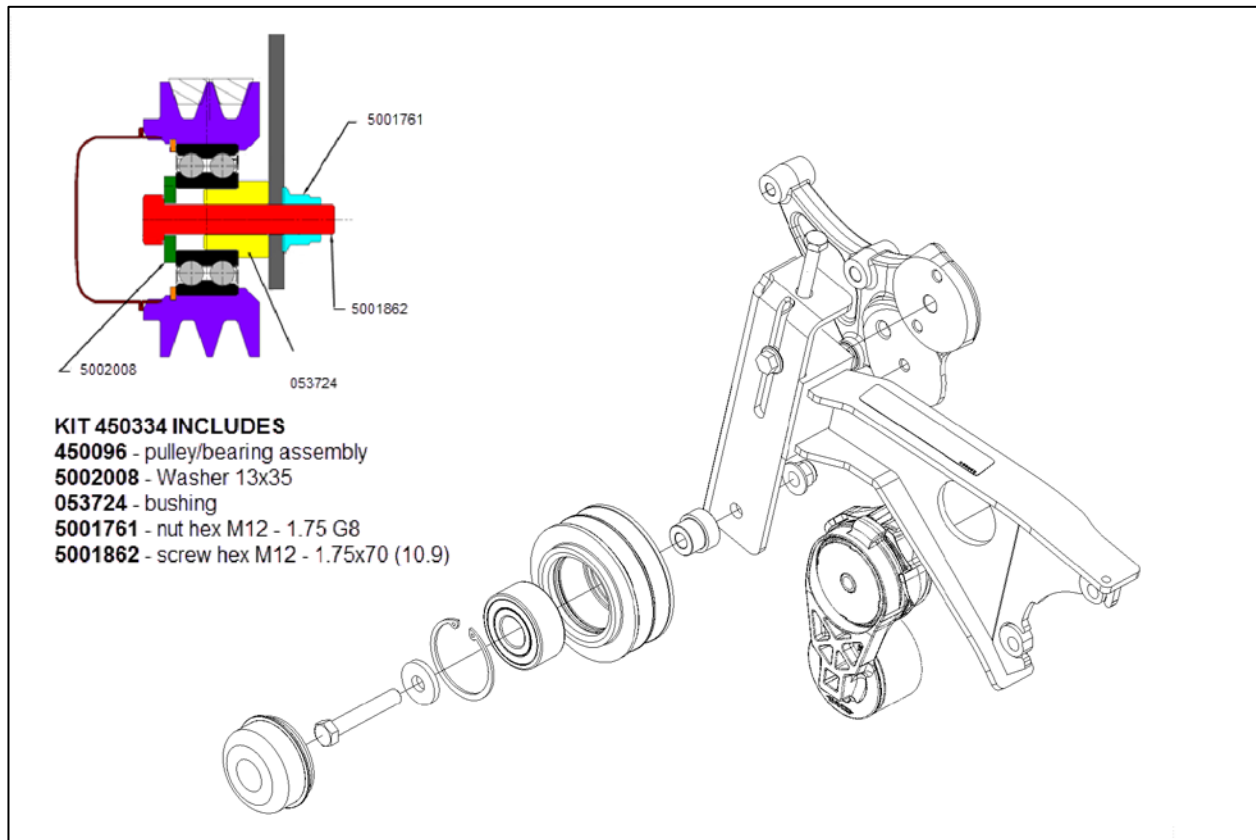
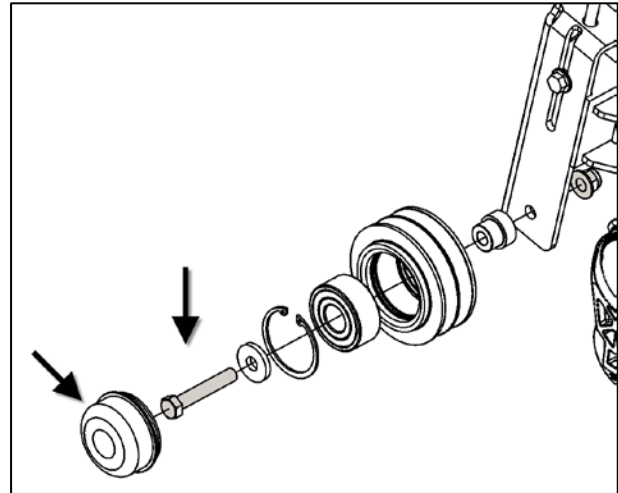

Figure 1: 450334 Idler assembly Exploded View.
Figure 3
5. Install the new idler. (Figure 1, Figure 3)
6. Install dustcap.(Figure 3)